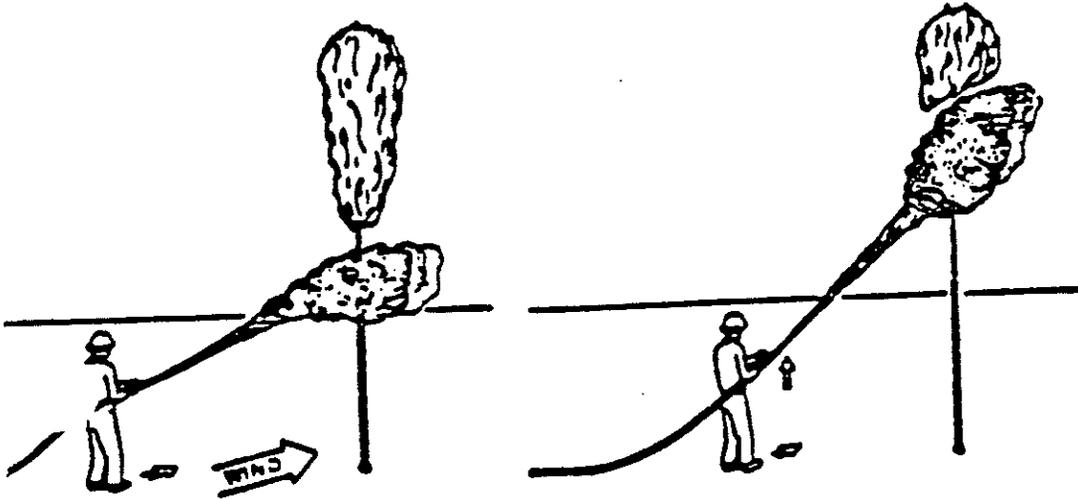

Fig. 1
2. Approach the fire from the upwind side. Direct the dry chemical stream at the fuel source. (Fig. 1)